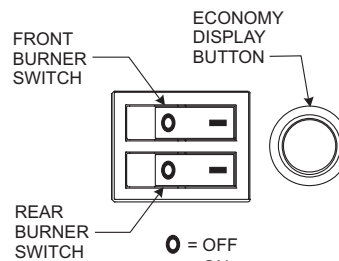

Figure 56
D. Turn both burner switches on to ignite both the front and rear burners. Burner switches must remain in the ON position for the remote to function. See Figure 56.
To turn the heater off, simply push "OFF" on the remote or switch the burner switch(es) to the "OFF" position. See Figure 56. DO NOT cut the main electrical power to the heater.
The circulating air blower will automatically engage and increase in speed depending on the operation of the burners. See Figure 56. In most circumstances, the circulating blower will start 3 to 5 minutes after ignition of the burners.